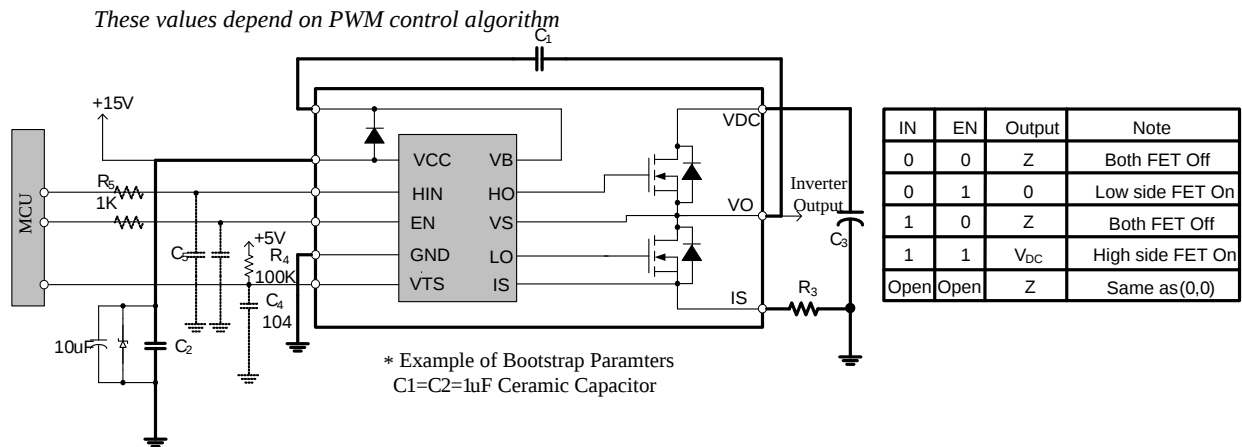

Figure 4.Recommended MCU Interface and Bootstrap Circuit with Parameters
1. Source terminal of each low-side MOSFET is not connected to supply ground or bias voltage ground inside IPM. External connections should be made as indicated in Figure 4.